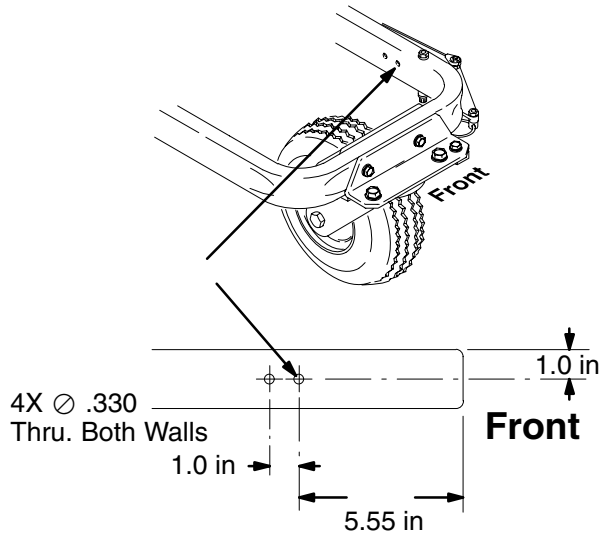

Fig. 2 8851A
- 2 . Fig. 2. Drill two holes thru right side of chassis frame as viewed from front.